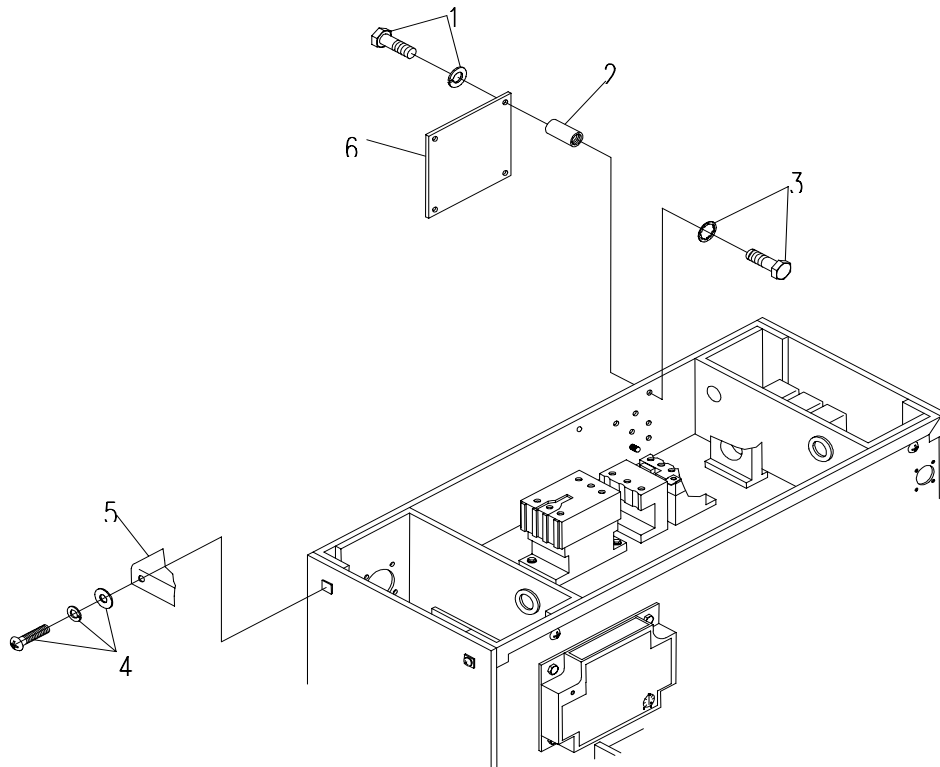

Figure 4-39. Electrical Output Terminal Board
- a. Remove four screws (JTACS), or slotted hex-head bolts (SICPS and WIN-T), flat and lock washers (15, Figure 4-39), and remove generator housing top cover (16).
- b. Remove four bolts (1) and lock washers (2) securing protective cover (25). Remove cover (25).
- c. Remove four bolts (5), star washers (4), and four separators (3).
- d. Remove four nuts (24), star washer (23), flat washers (22). Tag and remove shelter terminal leads (21) from terminal board (6).
- e. Remove two jumper bars (20) from terminal posts (8).
- f. Inside generator housing, remove four nuts (12), star washers (11), and flat washers (10) from terminal posts (8).
- g. Tag and remove electrical leads (9) from terminal posts (8).
- h. Remove eight nuts, four washers and four lock washers (7 and 19) and remove terminal posts (8).
- j. Inside generator housing, at bottom of terminal board (6), remove two nuts with captive washers (14) from countersunk hex socket screws and remove terminal board (6).
- k. At top of terminal board (6), remove two bolts (18) and nuts with captive washers (13).